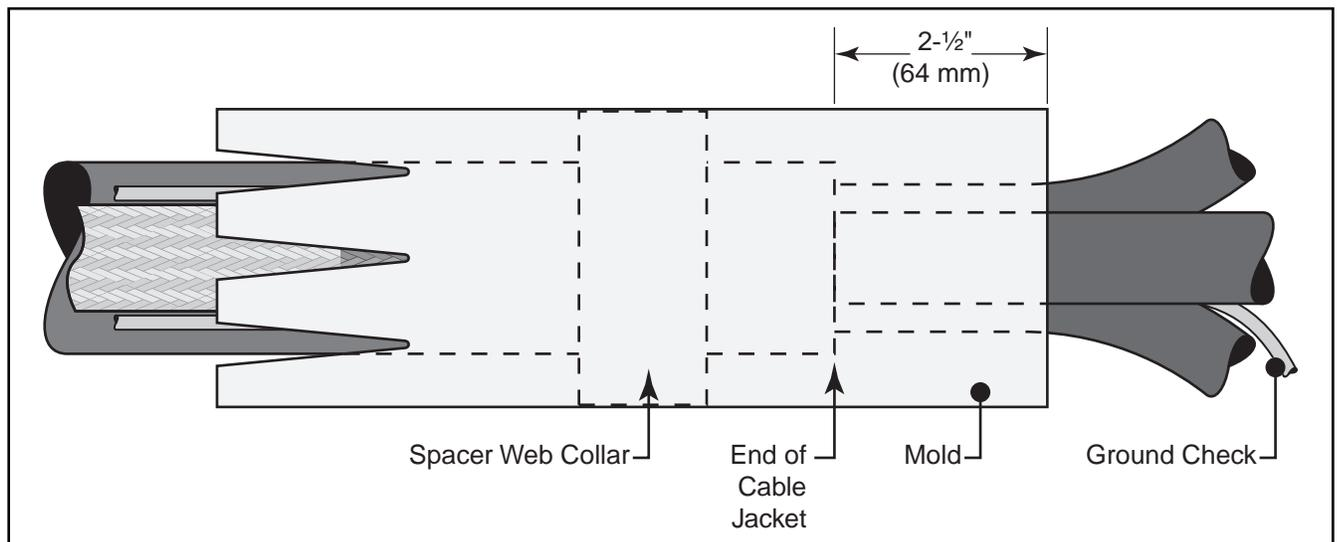

Figure 18
8.7 Position mold over spacer web collar with the top edge extending 2-1/2" (64 mm) beyond the end of the cable jacket, as shown. (Figure 18.)